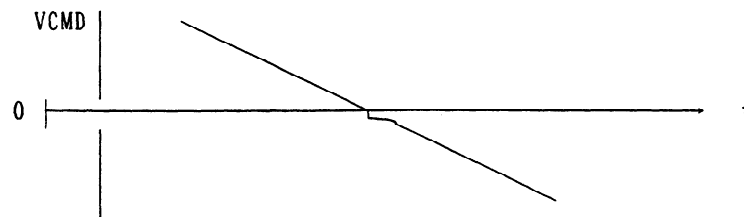

Fig. 2.5.2 (c) VCMD Waveform a
- If VCMD waveform is Fig. 2.5.2 (e) → (Step 3)-2.